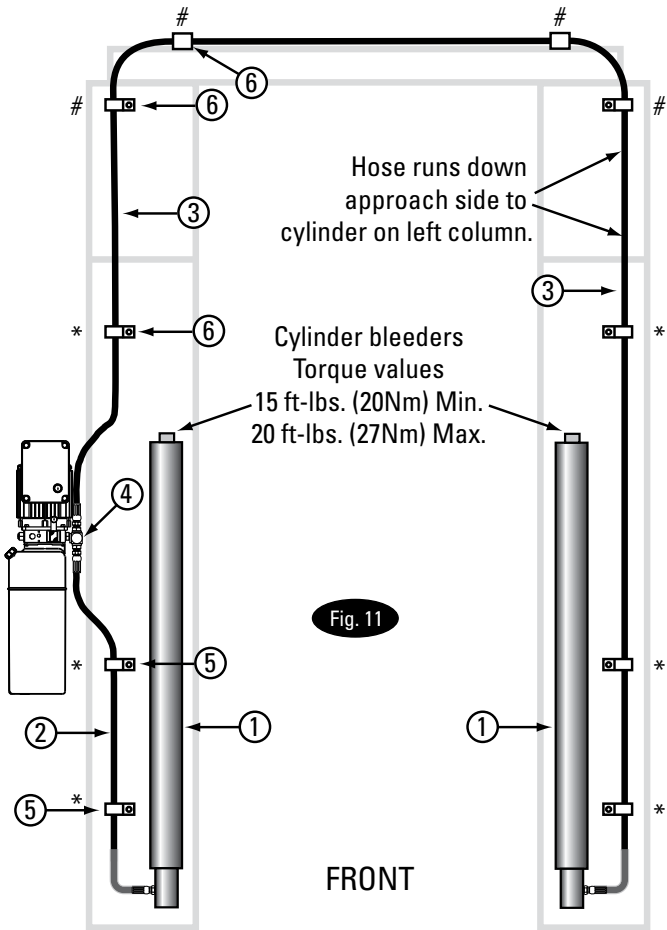

Fig. 11
10. Hoses: Clean adapters and hose. Inspect all threads for damage and hose ends to be sure they are crimped, Fig. 10. Install hose and hose clamps, Fig. 11, Fig.12 & Fig. 16.
### Adapter & Hose Installation (see Figs. 11 and 12)